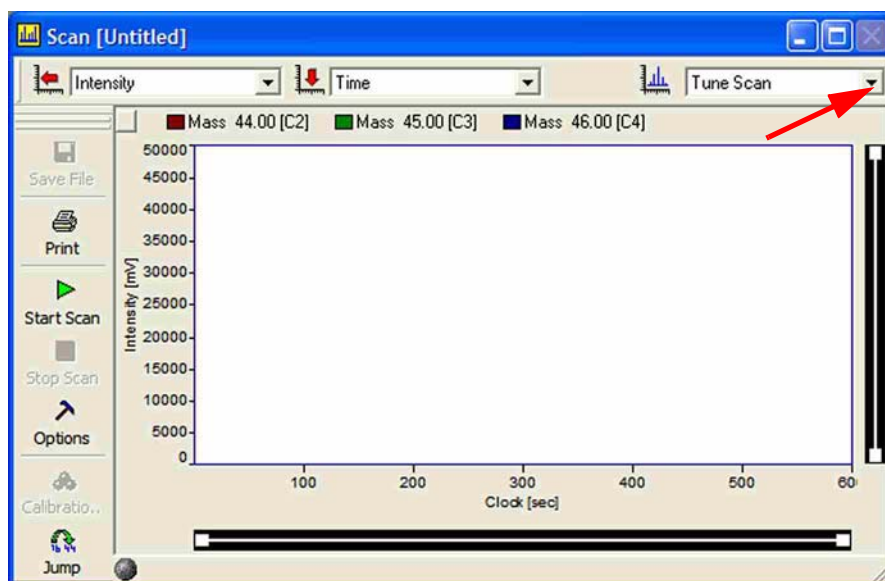

Figure 6-6. “Tune Scan” Window in Instrument Control
- Switch on “Tune Scan” in Isodat 2.5’s Instrument Control module. See Figure 6-6.